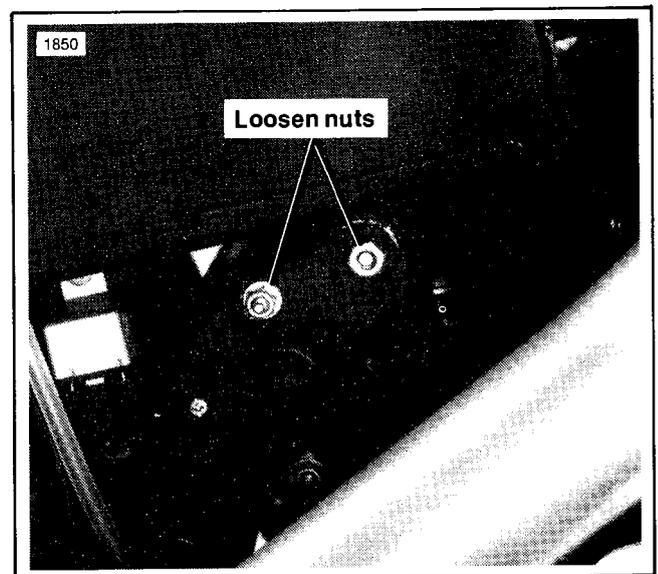

Figure 2. Starter Motor Frame
4. See Figure 2. Loosen two nuts securing starter motor.
8. See Figure 2. Tighten two nuts securing starter motor.